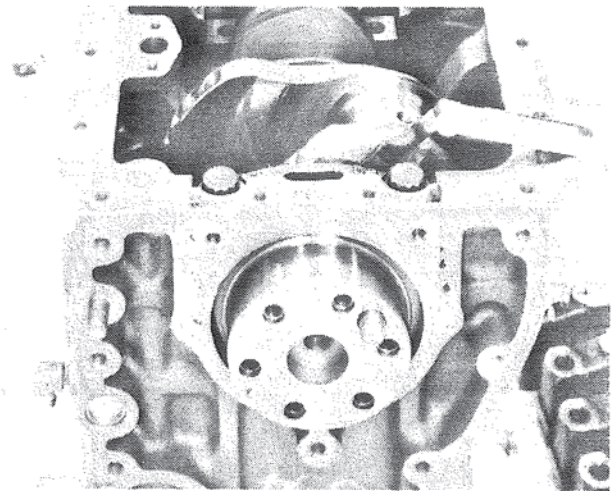

Figure 51. Measuring End Thrust.
- A. Measure clearance with a feeler gauge. Figure 51.